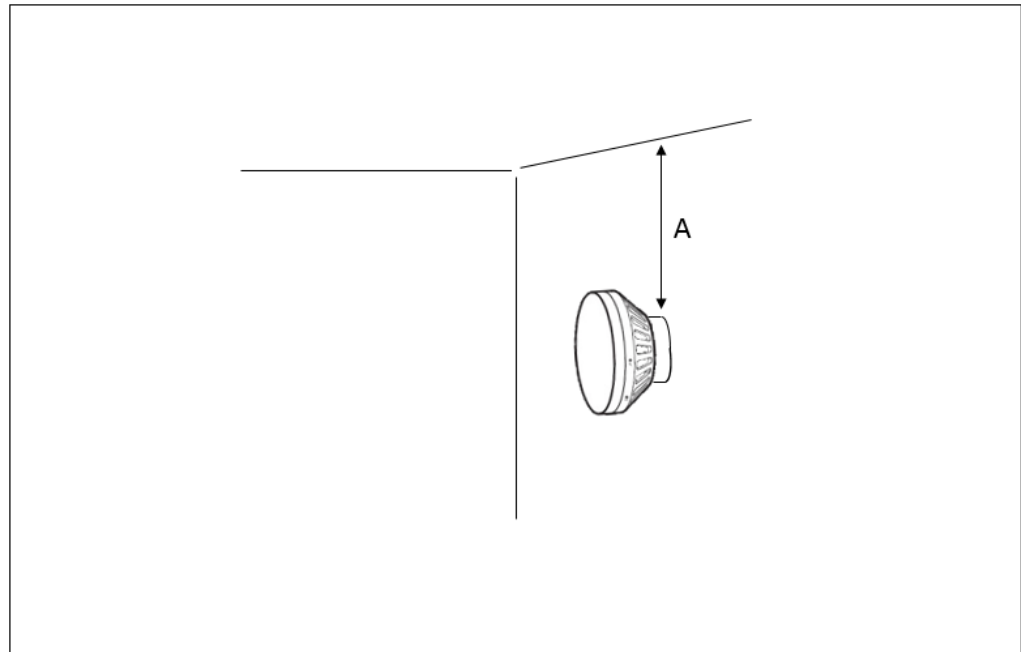

Figure 10 Minimum Mounting Distance to Ceilings
When mounting the RD on a wall, the top of the bracket must be at a distance (A) of at least 20 cm from the ceiling (see Figure 10).